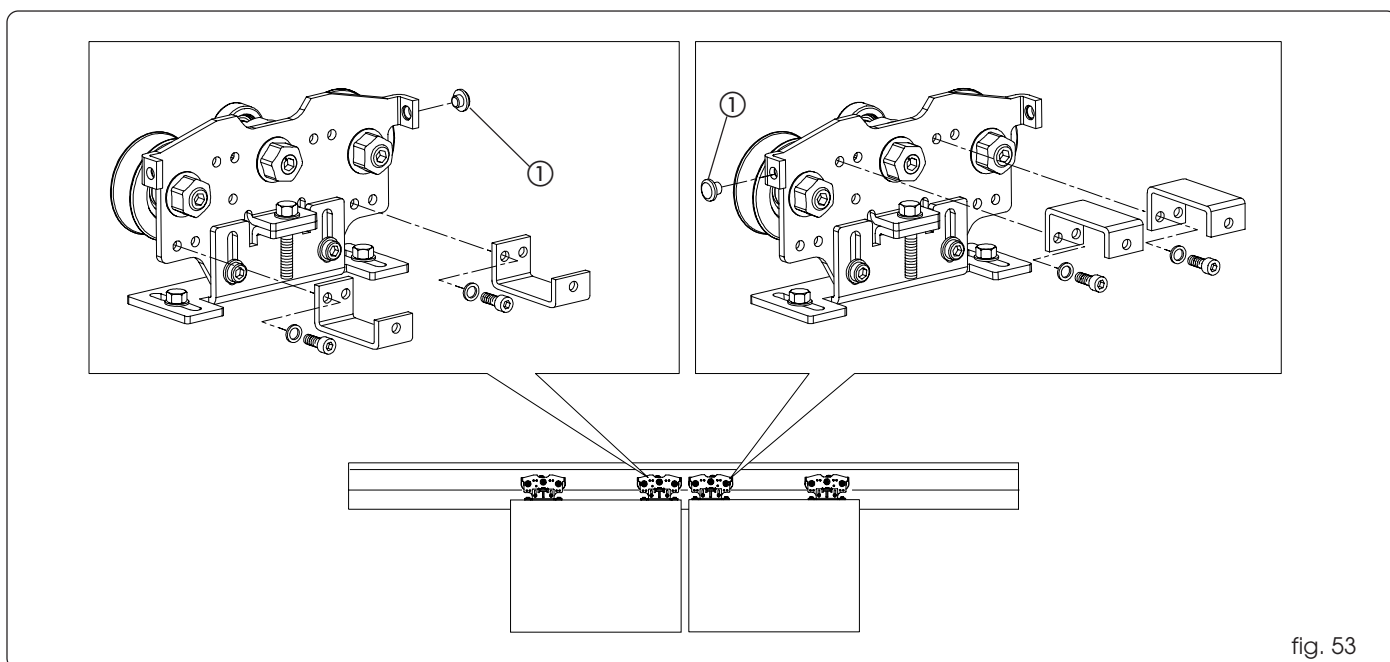

fig. 53
Install two stop plates on the innermost carriages as shown in fig. 53.
Fit the rubber stops (fig. 53 ref. ①).